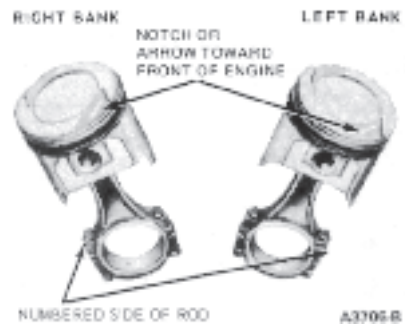

Fig. 49 Correct Piston and Rod Positions
1. Apply a light coat of engine oil to all parts. **Assemble the piston to the connecting rod with the cylinder number side of the connecting rod and the indentation notch in the piston positioned as shown in Fig. 49.**